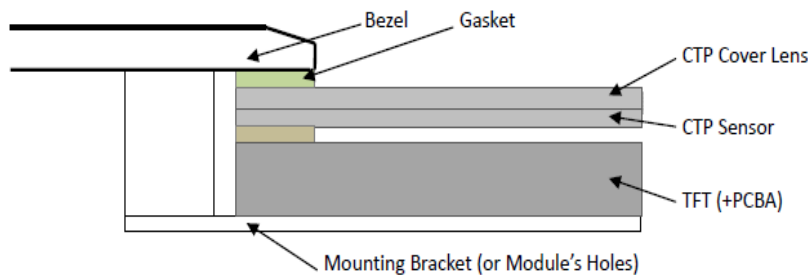

Figure 1
9.1 Bezel Mounting (Figure 1)
9.1 面框安装 (附图 1)